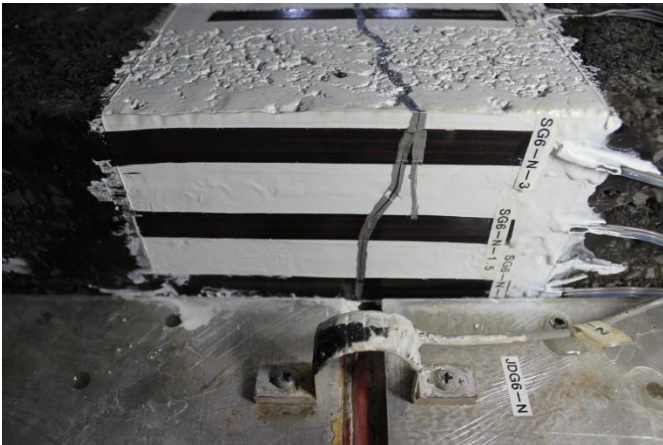

Figure 9. North outer vertical edge
- The North outer vertical edge is cracked, as shown in Figure 9.